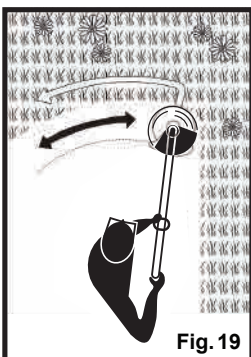

Fig. 19
- Work rhythmically. Stand firmly with your feet apart. Cut from right to left so the trimmings will be thrown away from the work area (Fig. 19).